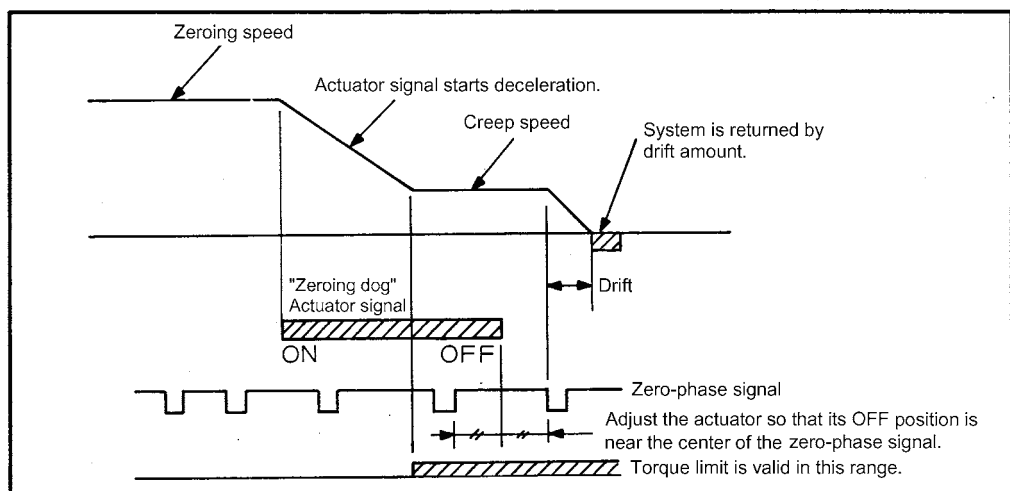

Fig. 3.15 Zeroing and Creep Speeds
- (1) Connect a pulse generator (PLG) to only Phase A and Phase B, and connect a limit switch or similar device to the Z phase. When connecting a limit switch to the Z phase, connect it across the pin No. "10" and "9 (ground)" of the connector "ENCO". (Refer to Section 3.7.2.)
- (2) If a stop signal is input before the speed decreases to the creep speed, note that the servo motor and mechanical system will be stained, causing a failure.
(3) Zeroing address
(4) Zeroing speed
- Sets the zeroing speed. (Refer to Fig. 3.15.)
(5) Creep speed
- This is the low speed used to approach the home position. (See Fig. 3.15.)